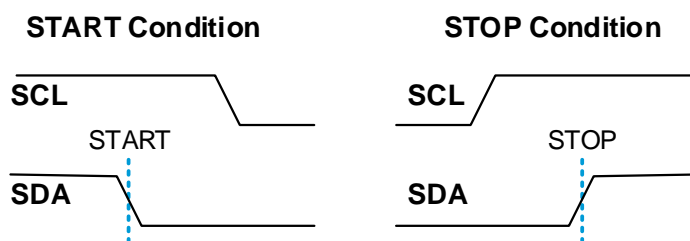

Figure 10. START and STOP Condition Waveform
The sensor transmission is initiated when the master sends a 0 START bit (S). The transmission is terminated when the master sends a 1 STOP bit (P). These bits are only transmitted while the SCL line is HIGH (see Figure 10 for waveforms).